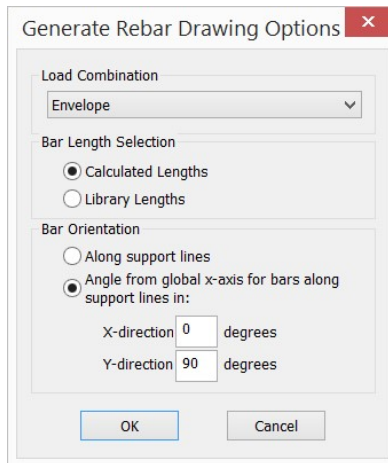

FIGURE 6.8-10 GENERATE REBAR DRAWING OPTIONS
- Once the design of sections is complete, use the menu item **Floor Design | Rebar | Calculated Rebar Plan**  to display the rebar required to meet demand for serviceability, strength or envelope. The dialog box as shown in **Figure 6.8-10** will be displayed.
- The user can select the any of the load combinations defined in the model to view rebar for. Note that when the ACI318 code is selected, no rebar will be generated for serviceability conditions as the code waives temperature and shrinkage reinforcement for soil supported slabs. You may choose the **Bar Length Selection** and the **Bar Orientation**, and then click **OK**. If the orientation of the bars is **Along support lines** the reinforcing is aligned parallel to the support lines even if they are not in the X-Y directions. The selection of an angle generates rebar layouts for those directions. The **Dynamic Rebar Module** calculates the required reinforcement for the direction selected. For this tutorial, specify **Library Length** and to have desirable rebar length and bar orientation along global X and Y axis as shown in **Figure 6.8-10**.